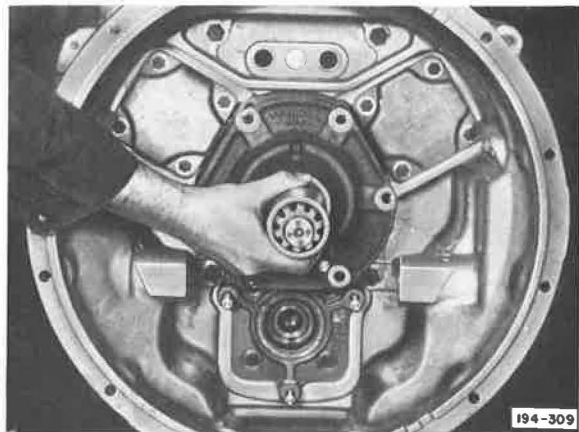

Figure 377. Installing Cover
13. For push-type clutches only: Install front compound main drive pinion bearing cover, using care not to damage sealing lip of oil seal. No special tool is required. See Figure 377.